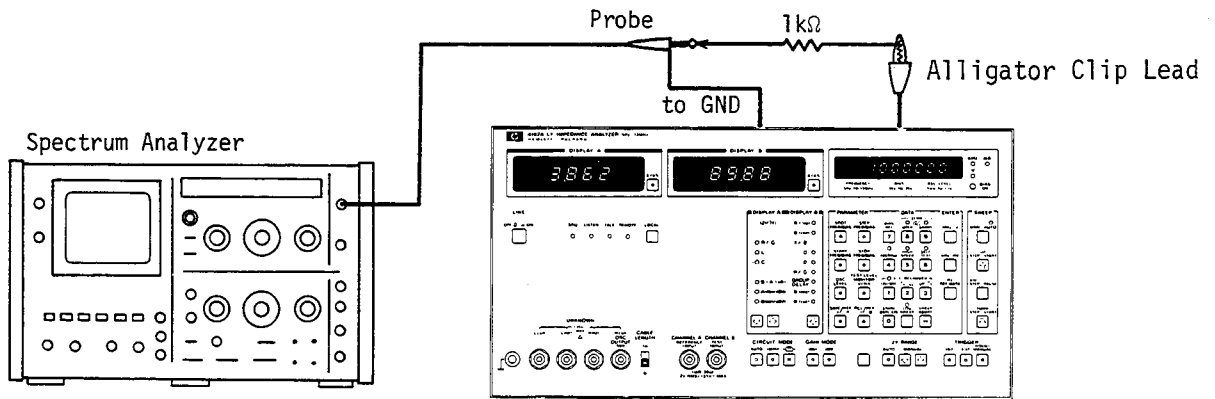

Figure 5-6. A4 S/H 100kHz Spurious Adjustment Setup.
- a. Connect the input of the Spectrum Analyzer to A4TP1 through the 1kΩ resistor as shown in Figure 5-6.